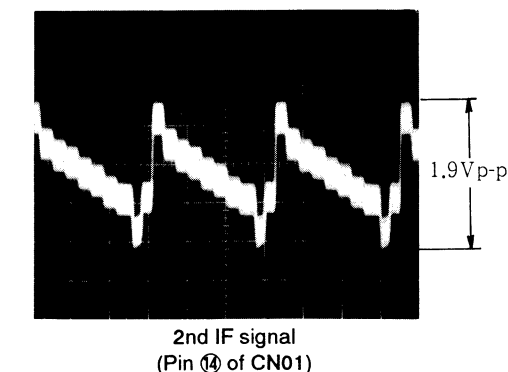

Fig. 1.
The 2nd IF signal that is output from Pin ⑨ of IF block passes through NM-1 board substrate, and enters Pin ⑭ of CN01 on NA-7 board (Fig. 1.).